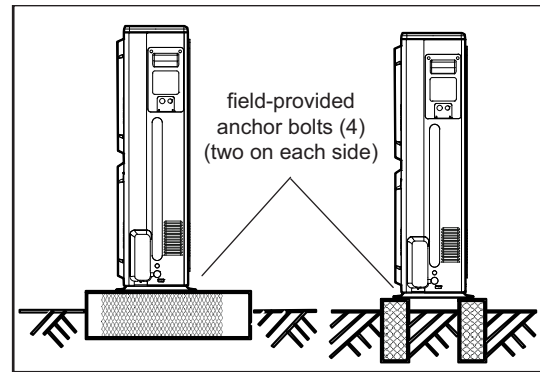

Fig. 35 —Securing Outdoor Unit to Slab or Frame
- Use lag bolts or equivalent to secure the outdoor unit to the slab or frame. Fig. 35.